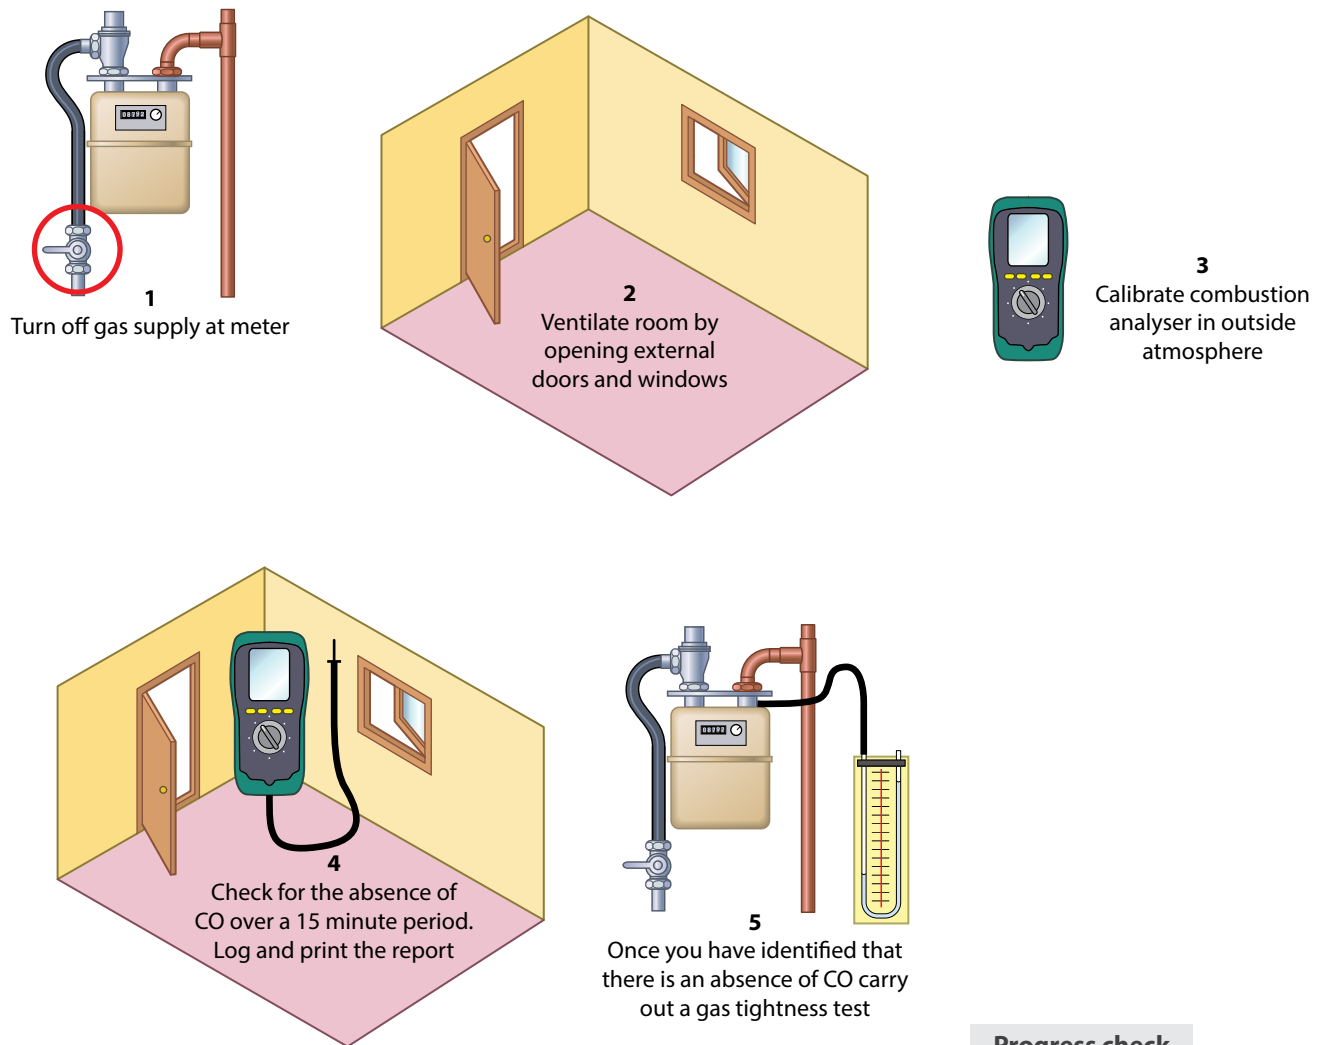

Figure 7.43 Initial check for CO in a dwelling
Position an open ended sampling probe approximately 2 m above floor level in the centre of the room and at least 1 m away from any suspect appliance installation (see Figure 7.43 on page 241).
After completion of the test in Figure 7.43 the results can confirm only one of two outcomes: (1) an absence of CO, in which case carry out a gas tightness test; or (2) the presence of CO, in which case the CO discharge is likely to be coming from another fuel-burning appliance within the property. The fuel-burning appliance does not necessarily have to be natural gas, for example it could be a wood-burning stove in the dwelling that is causing the CO discharge.